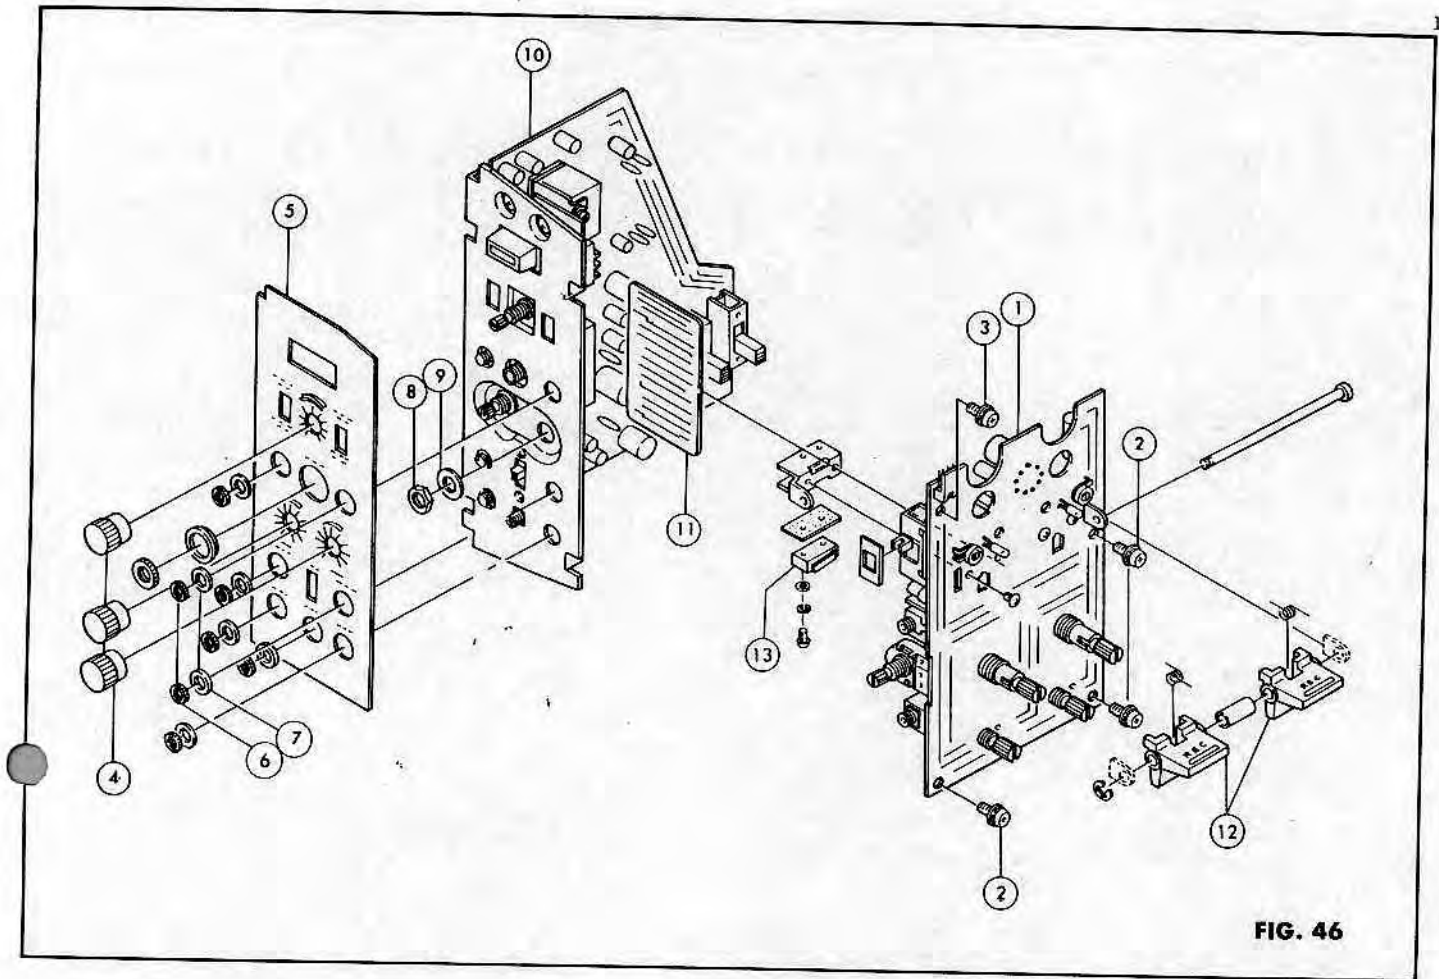

FIG. 46
TROUBLESHOOTING: (Refer to Fig. 46)
1. Unscrew the (2)x3, & (3). Remove the (4)x3 and peel the (5) off.
2. Unscrew the (6)x2 with (7), and the (8) with (9). Detach the (1) from the (10).
3. For further disassembly, refer to Fig. 46.